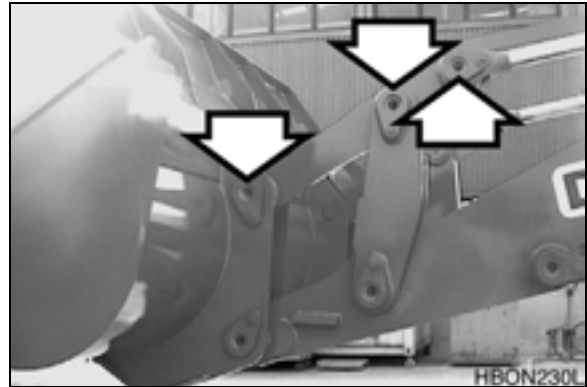

Figure 42
- B: Bucket lever connecting pins, 2 locations. Lever link connecting pins, 2 locations. Bucket cylinder rod ends, 2 locations. (Figure 42)